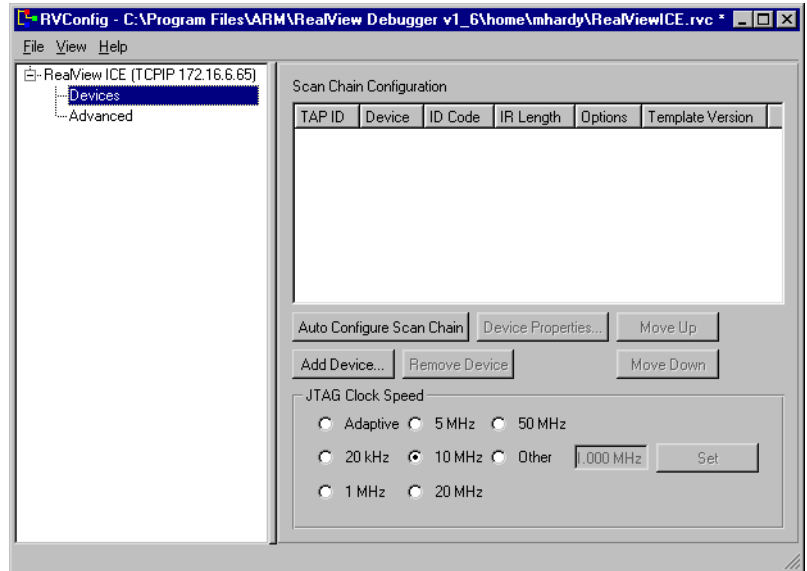

Figure B-11 The RVConfig dialog box
8. Configure the RealView ICE target using the RVConfig dialog box shown in Figure B-11 on page B-13.